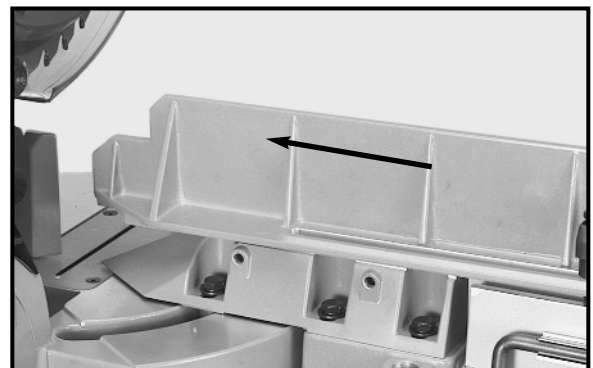
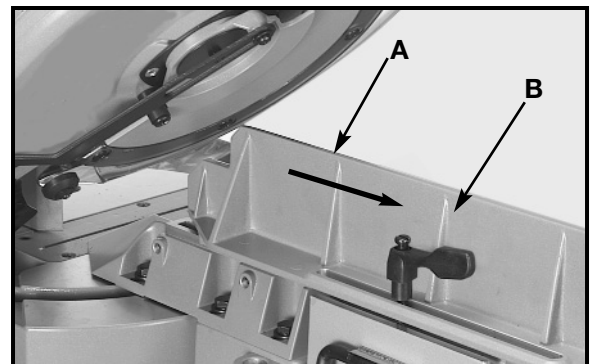

Fig. 20
Fig. 21
The high sliding fence Fig. 20, provides support for extra large workpieces used with your saw and should always be set as close as possible to the saw blade. When miter cutting (set blade 90° to the table and at an angle to the right or left), the fence should be set all the way toward the blade, (Fig. 20). When bevel cutting, however (blade tilted at an angle to the table), the fence (A) Fig. 21, should be moved away from the blade to allow for proper clearance for the saw blade and guard, (Fig. 21). To reposition the fence, loosen the lock handle (B), and slide the fence (A) to the desired location. Tighten the lock handle (B).